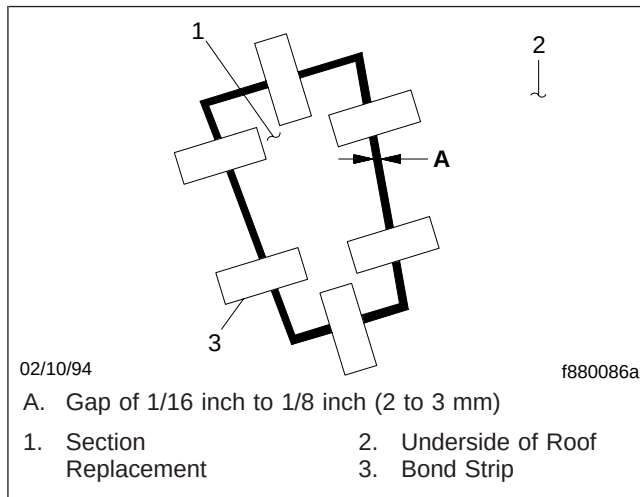

Fig. 10, Securing the Section Replacement to the Roof Panel Using Bond Strips
- If the section replacement is close enough to an edge, use clamps to temporarily secure it during the repair. If the replacement is too far from an edge to use clamps, use bond strips as shown in Fig. 10.